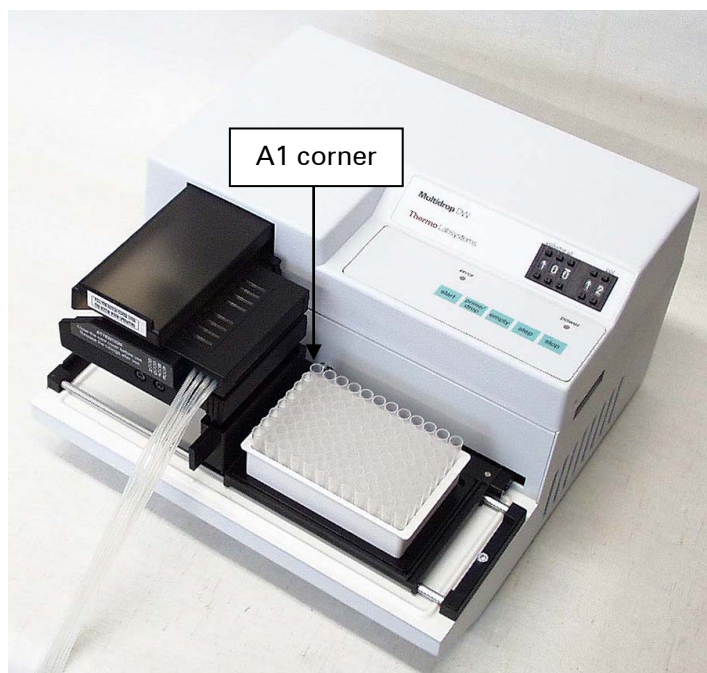

Fig. 6.13 Tubes in the 96-channel rack placed onto the plate adapter
- Then place the tubes in the 96-channel rack onto the plate adapter with the A1 corner of the rack located top left of the plate carrier (Fig. 6.13).